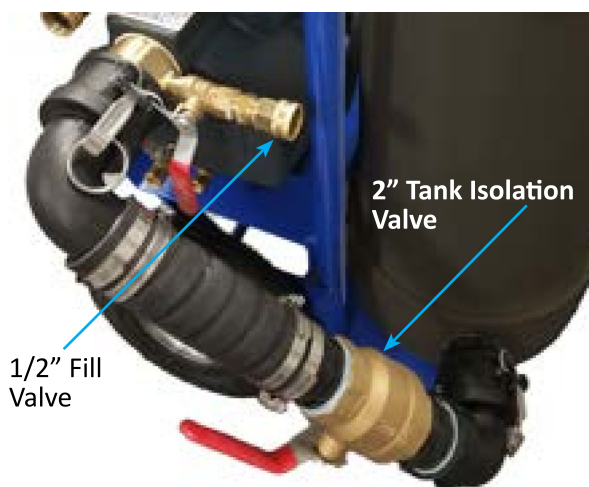
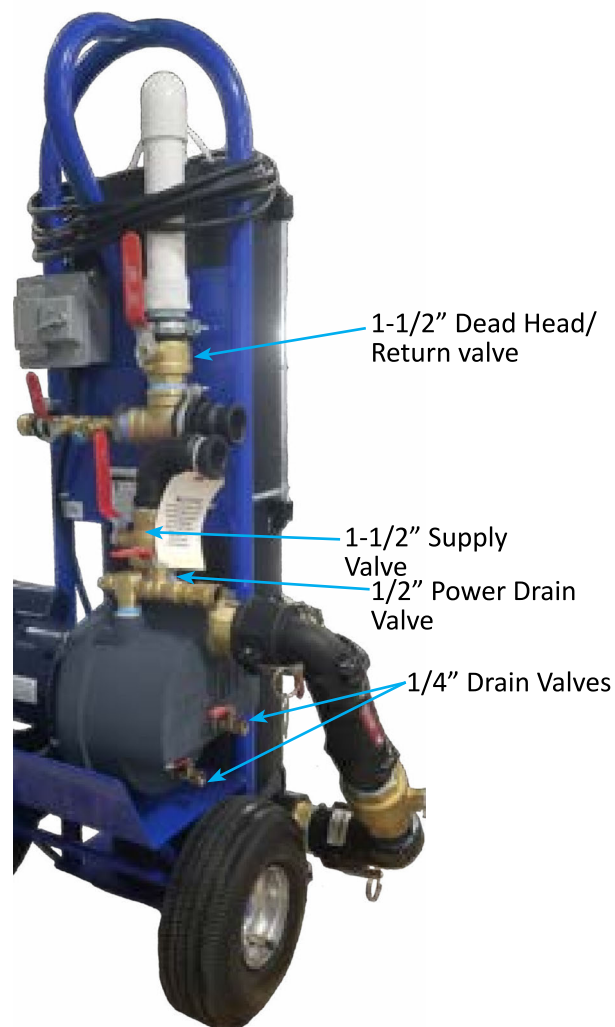

Figure 5: Fill Valve/Tank Isolation Valve
Figure 8: Flush Cart Valves in flushing steps
4. Attach garden/utility hose to 1/2" fill valve (Figure 5). Attach other end of hose to acceptable municipal water supply or pre-mixed antifreeze source and transfer pump.
8. Close 2" tank isolation valve (Figure 5) and open the 1-1/2" dead-head valve (Figure 8).
9. Open 1/2" fill valve (Figure 5) and allow the loop to fill. Watch the fluid level in the tank via the sight tube. When the tank is nearly full, shut off the 1/2" fill valve and 1-1/2" supply valve (Figure 8).
10. Open the 2" tank isolation valve (Figure 5) and energize the pump. Slowly open the 1-1/2" supply valve (Figure 8) approximately 1/4 to 1/2 open. Air and debris will be pushed through the return piping. Debris will be captured in the bag filter and air will be released to the atmosphere.
11. Regulate the fluid level in the tank with the 1/2" fill valve (Figure 5) and the 1-1/2" supply valve (Figure 8) while the pump is running. Do not allow the fluid in the tank to drop too low or air will be pushed back into the loop extending flushing time.
NOTE: When the pump is running any air remaining in the loop will be pressurized. Therefore, if the pump is powered off during the flushing process the compressed air will expand pushing the loop fluid back in the tank. This could cause the tank to overflow. If the pump must be shut off during the process, close the 1-1/2" supply valve (Figure 8) and the 1-1/2" dead-head/return valve (Figure 8) to prevent fluid from returning to the tank.
12. When the fluid level remains relatively stable ensure that the 1-1/2" supply valve (Figure 8) is fully open.
14. While the pump is running, "dead-head" the pump by turning off the dead-head/return valve (Figure 8). Then, quickly reopen the valve allowing the fluid to return to the tank. This process drives the loop pressure up thereby compressing any air remaining in the loop. Quickly opening the valve creates a sudden high velocity surge that helps dislodge air into the fluid stream where it can be returned to the tank.
17. Close the 1-1/2" dead-head valve (Figure 8) while watching the fluid level in the sight tube. The dead-head process drives the static loop pressure to approximately 50 psi. Since fluid is incompressible but air can be compressed, this procedure shows whether air remains in the loop. In general, the fluid should not drop more than about 3/8" to 3/4" on a typical residential system. The slight drop in fluid is due to the expansion of the ground loop piping, and the actual drop will depend on the loop size (i.e. how much total pipe is in the loop) and fluid temperature.
19. Open the 1-1/2" dead-head valve (Figure 8) and allow the fluid to continue to circulate.
23. Close the 1-1/2" dead-head valve (Figure 8).
24. Close the 1-1/2" supply valve (Figure 8) to trap pressure in the system. Turn off the pump.
28. Open the 1-1/2" Supply and Return valves (Figure 8) to relieve the pressure in the hoses.